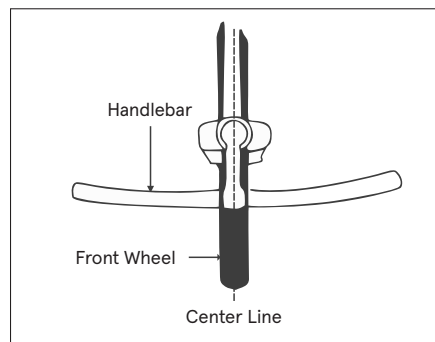

Fig. 13
- 2.** Align the handlebar stem with the front wheel **(See Fig. 13)**. Securely tighten the stem bolt(s). Note: Some models require a 6mm hex key. (Tightening torque: 18N.m or 14foot lbs.torque).
- 2.** Align the handlebar stem with the front wheel **(See Fig. 13)**. Securely tighten the stem bolt(s). Note: Some models require a 6mm hex key. (Tightening torque: 18N.m or 14foot lbs. torque).
- 4.** Be sure that your handlebar and stem assembly is properly tightened before riding. The handlebar and stem should not rotate in the stem up or down or in the fork from left or right **(Fig. 13)**.